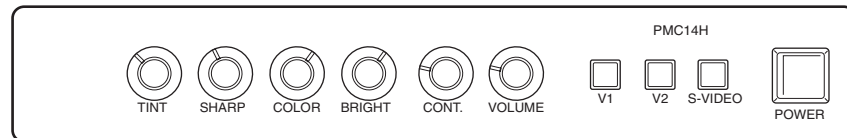

Figure 4. Front Panel of Monitor
2. Select the camera by pressing the V1, V2, or S-VIDEO button (refer to Figure 4).
3. If required adjust the picture using the control knobs on the front panel. Refer to Figure 4 for front panel controls.